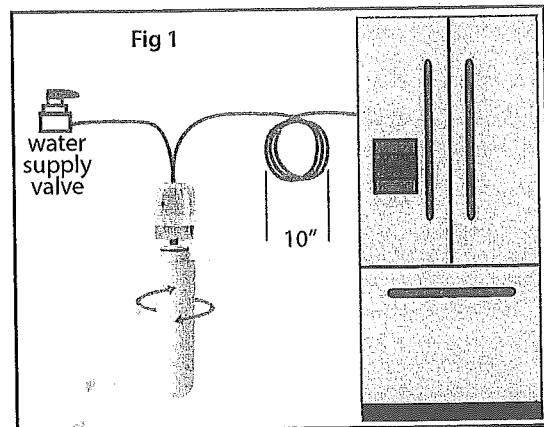

Fig 1
4. Cut the 1/4" water tubing at a location close to unit, leaving at least 8 feet of tubing coiled up (10" dia) between the outlet of the system and the fridge. See fig 1. Make sure the cut is straight without any burrs, flat spots or sharp edges.